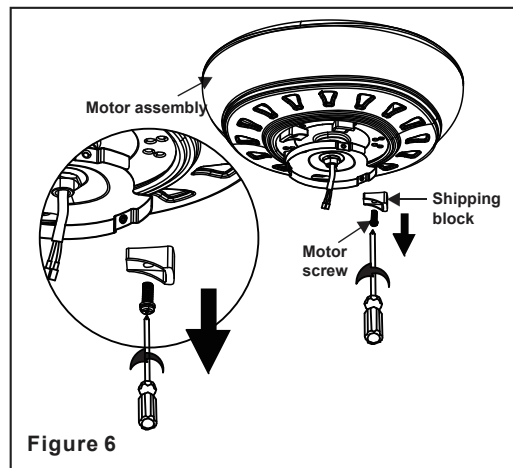

Figure 6
Step 3. Remove the 5 motor screws preassembled at the bottom of motor assembly, discarding the screws and the preassembled shipping blocks. (Fig. 6)